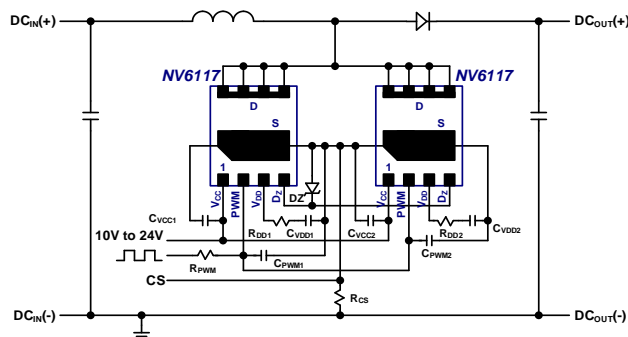

Fig. 25. Boost schematic using two parallel ICs
For some applications it is desirable to parallel ICs in order to reduce conduction losses and temperatures. Two NV6117 ICs can be connected in parallel in a PFC boost application working in boundary-conduction mode (BCM) only. The parallel configuration for two NV6117 ICs is shown in Fig. 25. The paired pins that are connected together include the drain pins (D), the source pins (S), the V_{CC} pins, the PWM pins, and the D_Z . A single D_Z diode can be shared by both ICs. The V_{DD} pins are not connected together and require separate V_{DD} supply capacitors (C_{VDD1} , C_{VDD2}) and separate turn-on current set resistors (R_{DD1} , R_{DD2}). Each IC should have its own local V_{CC} supply filter capacitor (C_{VCC1} , C_{VCC2}). The PWM pins can have a single filter resistor (R_{PWM}) but separate filter capacitors (C_{PWM1} , C_{PWM2}) should be placed at the PWM pin of each IC. When designing the PCB layout for the two paralleled ICs, the drain and source connections should be made as symmetrical as possible to avoid any parasitic inductance or capacitance mismatch. A proper PCB layout example for paralleling is shown in Section 10.